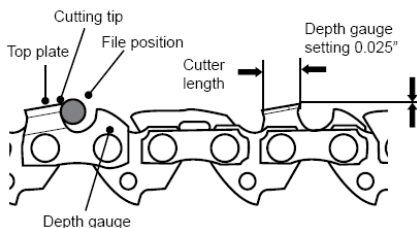

Fig. 49
- Use a depth gauge measuring instrument to check the height of the depth gauge. Depth gauge measuring jigs are available from most reputable tool merchants (Fig. 49).